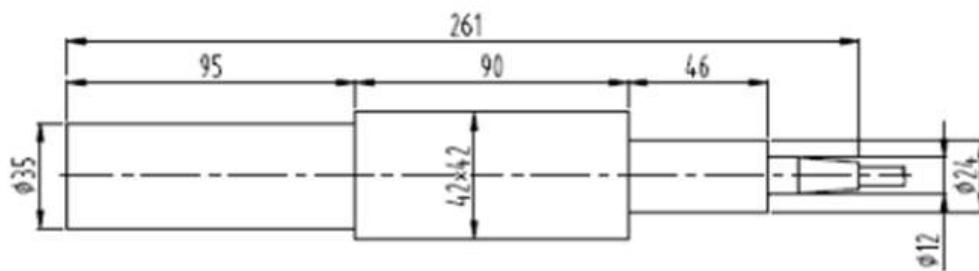

Figure 2. Dimension drawing of output isolator (Unit: mm).
b) Isolated output isolator (As shown in Fig. 2).